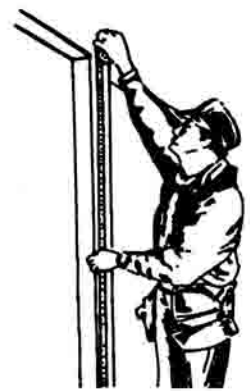

Figure 5-2
1. Measure the entire height of the overhang opening from the soffit to the deck. Subtract the space taken up by the base & plinth assembly and the capital assembly. A good technique is to set the cap and base on the deck (Fig. 5-1) and then measure up to the soffit or beam (Fig. 5-2). Be especially careful to account for the height of ornamental capitals with their wooden plugs.